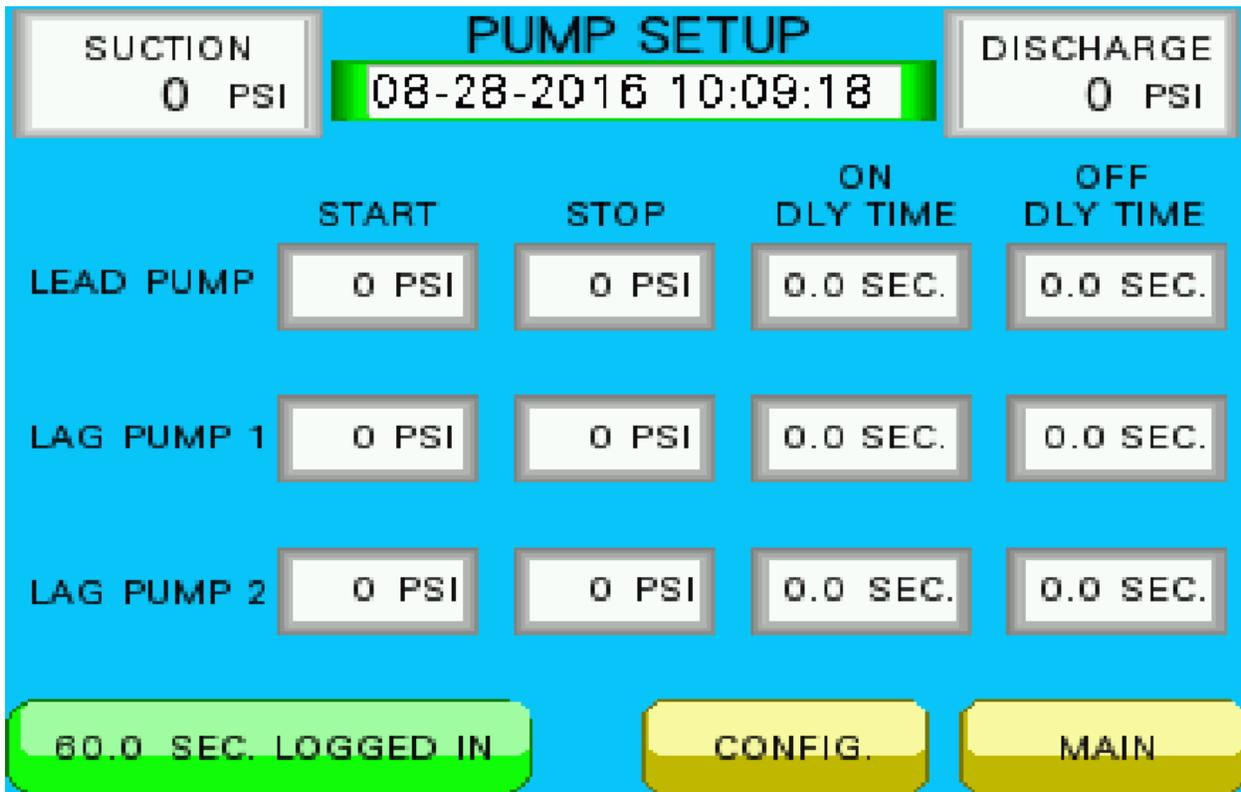

Figure 1.4
4. Type the password (1951) and press ENTER. The red LOGGED OUT button will now turn green and will display the amount of time in seconds you have before the system automatically logs you out like figure 1.4 below. As long as you are touching the screen on any page the logged out timer will continue to reset to sixty seconds. Once the user stops touching the screen the logout timer will count down to 0 and automatically log the user out. Any parameters that were changed will be sent to the system on log out. If you would like to manually log out before the sixty second timer expires you can simply press the green LOGGED IN button, you will then be logged out and the red LOGGED OUT button will reappear.